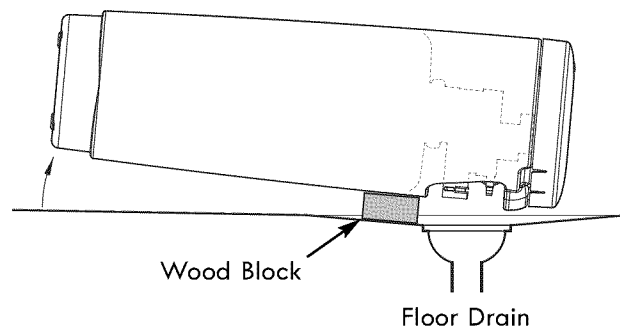

Figure 21
6. Lay a piece of 2 inch thick board near the floor drain (See Figure 21).
7. Move the Central Water Whole Home Filtration System close to the drain. Slowly and gently, tip it over until the rim rests on the wood block with the inlet and outlet over the drain (See Figure 21). Do not allow the unit's weight to rest on the inlet and outlet fittings or they may break.